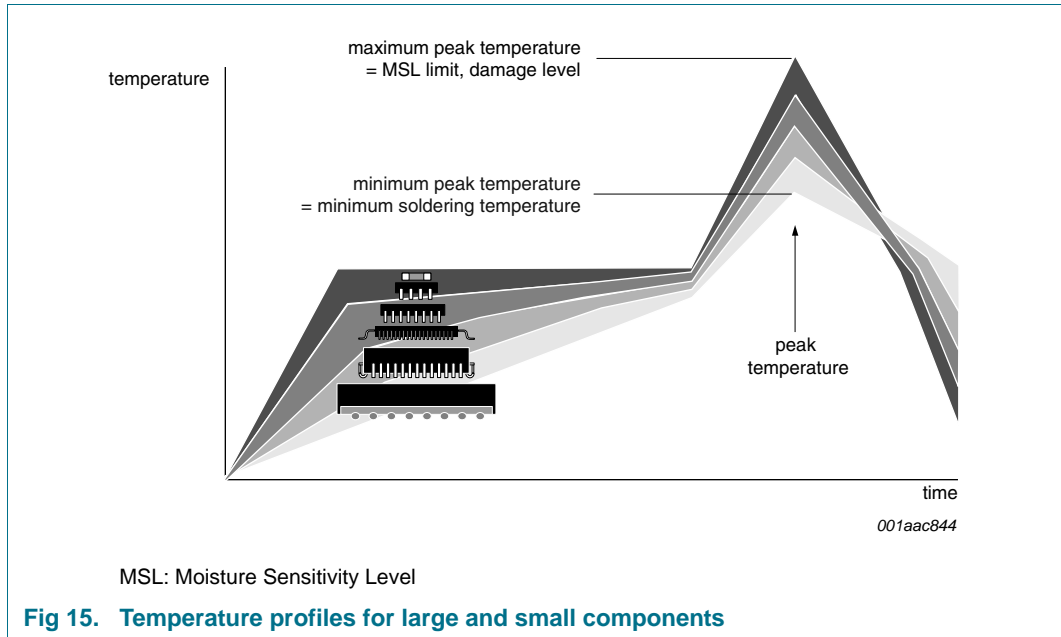

Fig 15. Temperature profiles for large and small components
- Lead-free versus SnPb soldering; note that a lead-free reflow process usually leads to higher minimum peak temperatures (see Figure 15) than a PbSn process, thus reducing the process window
Studies have shown that small packages reach higher temperatures during reflow soldering, see Figure 15.